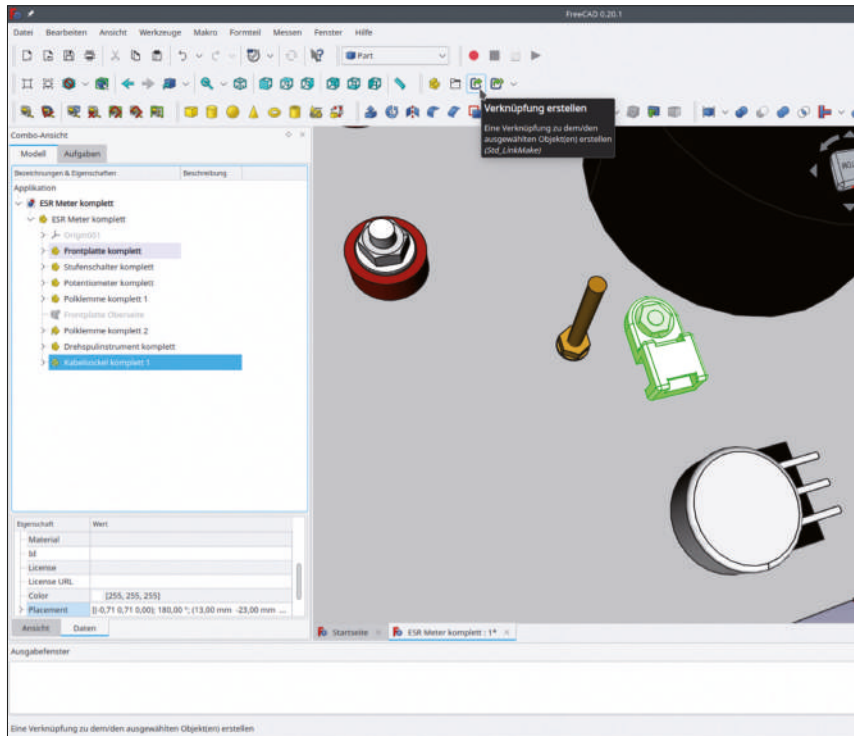

Figure 7-45
6. In the tree view, mark 'Anchor Plate Complete 1' and click the 'Make link' tool button (Figure 7-45).